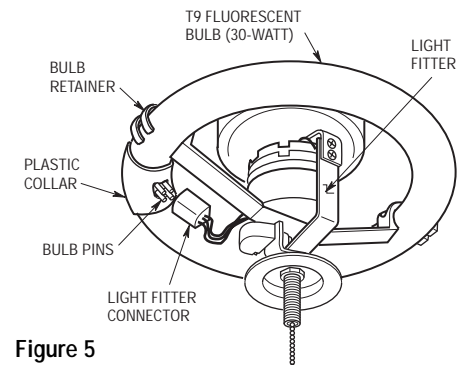

Figure 5
2. Remove the finial nut(5) and the bowl cap(4). Grasp the glass bowl(1); unscrew the thin nut(3) and remove the rubber washer(2) and the glass bowl.
3. Grasp the plastic collar on the the fluorescent bulb (Figure 5) and gently separate the light fitter connector from the bulb pins.
- Carefully position the T9 Circline 30-watt bulb (supplied) under the bulb retainer, making sure that the bulb pins are located at the bottom, near the light fitter connector (Figure 5). Carefully snap both sides of the bulb retainer over the bulb.